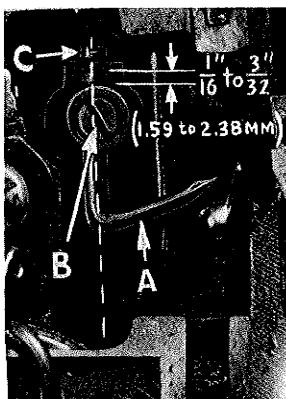

Fig. 8
Insert upper looper (A, Fig. 8) in its holder. Screw (B) holds upper looper in its holder and permits it to be pushed in or out or turned around its shank. Insert upper looper holder into upper looper shaft, if it is not already in place. Screw (C, Fig. 8) on clamp holds the upper looper holder in the shaft. Locate upper looper in its holder so that the shank extends $\frac{1}{16}$ to $\frac{3}{32}$ inch (1.59 to 2.38 mm) beyond holder (Fig. 8), for Styles 39500 QL, QN, QV, QX, RU, SR, SX and TY; $\frac{1}{32}$ to $\frac{1}{16}$ inch (.79 to 1.59 mm) for Styles 39500 RP and TG.
When the upper looper is at the right end of its stroke, upper looper holder should be set to position upper looper shank about vertical on Styles 39500 QN, QV, QX, SX and TY (Fig. 8). On Styles 39500 QL, RP, RU, SR and TG the upper looper holder should be set to position the upper looper shank slightly back of vertical. Be sure, on all Styles, there is a clearance between heel of looper and the casting. By adjusting looper holder in or out of upper looper shaft and by turning the looper around its shank, set upper looper point to cross lower looper to the left of the lower looper eye with .002 to .004 inch (.051 to .102 mm) clearance (Fig. 9).